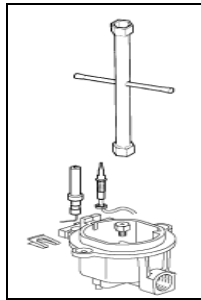

Fig.12
4) Unscrew the nozzles using a 7 mm spanner, and replace them (Fig.12) with those needed for the new type of gas according to what is indicated in the Energy Consumption Table.